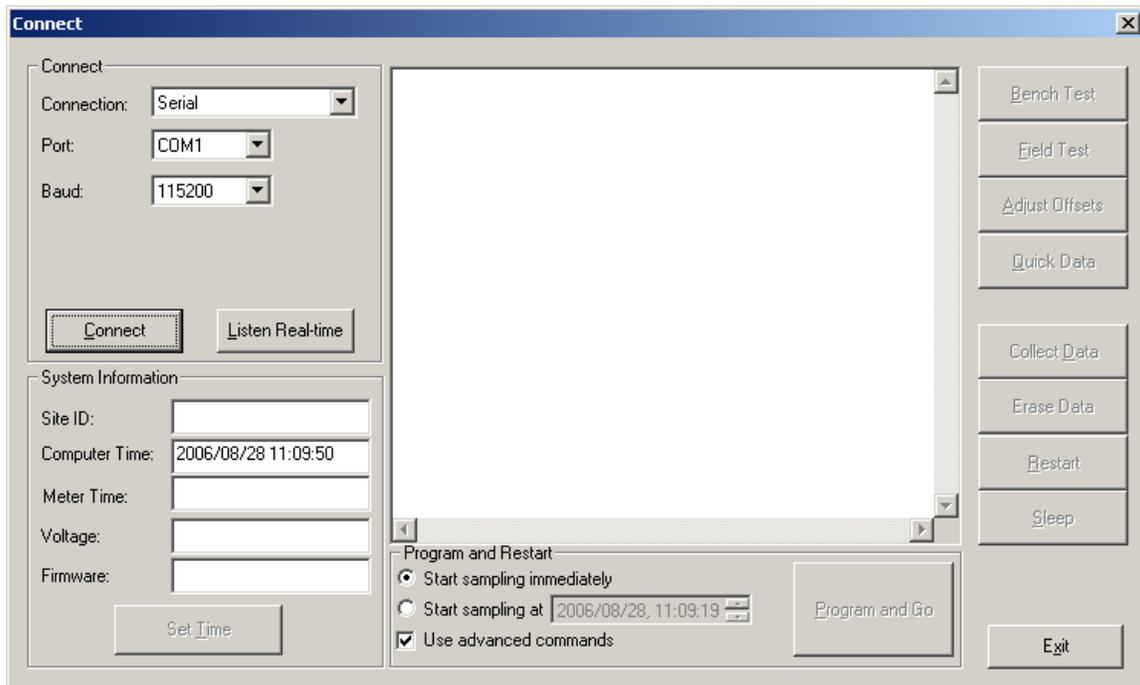

Figure 2-30 Connect Screen
6. Click Connect (Figure 2-30).